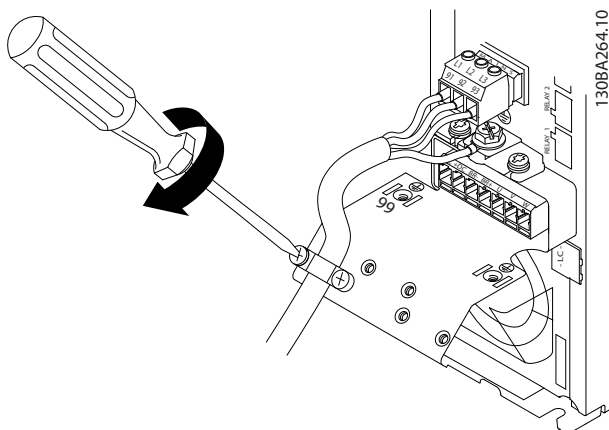

Figure 3.11 Mounting the Support Bracket
4. Mount the support bracket across the mains cables and tighten the screws as shown in Figure 3.11.